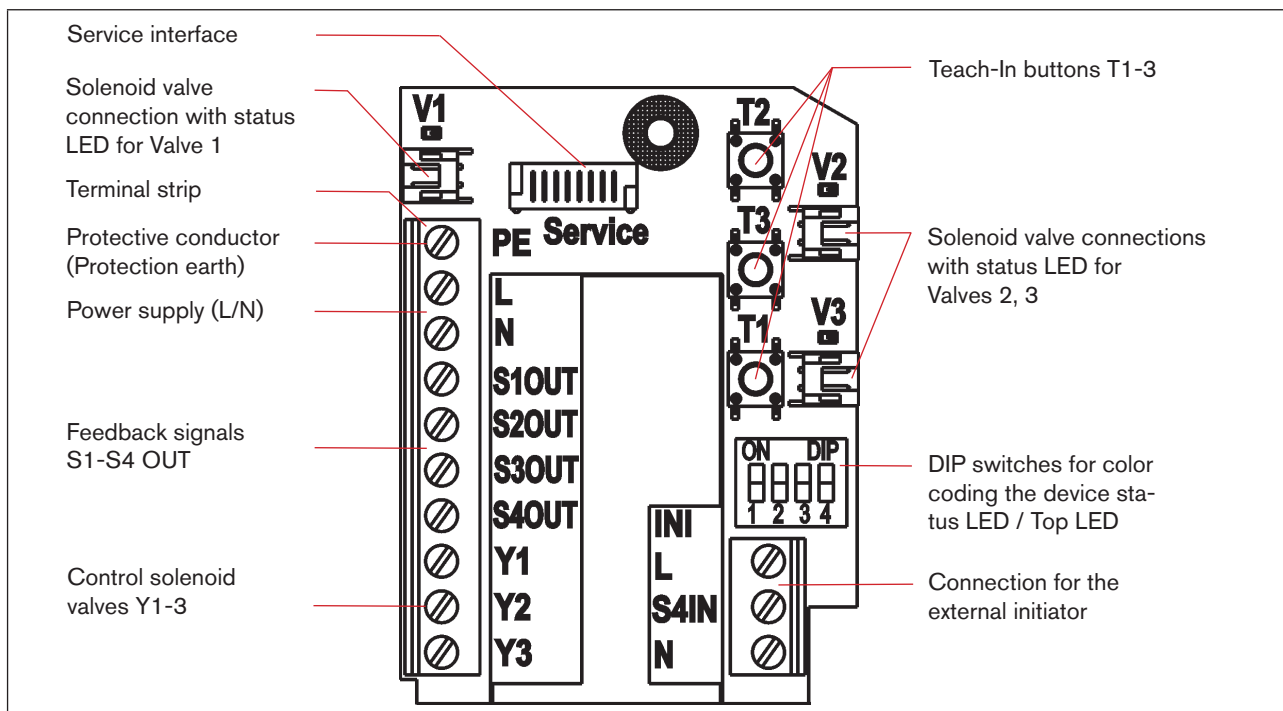

Fig. 31: 120 V AC electronics module
- Connect the wires to the connection terminals according to the connection configuration described in "Fig. 31: 120 V AC electronics module". If required, secure the cable with a cable clip.